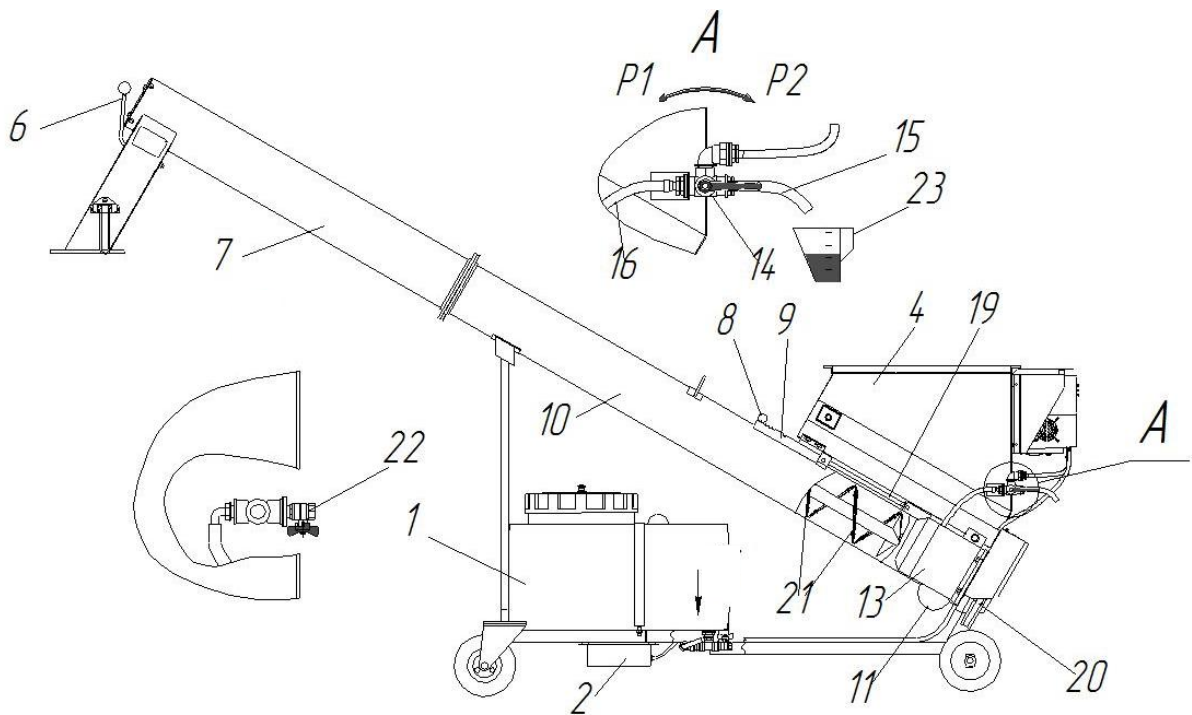
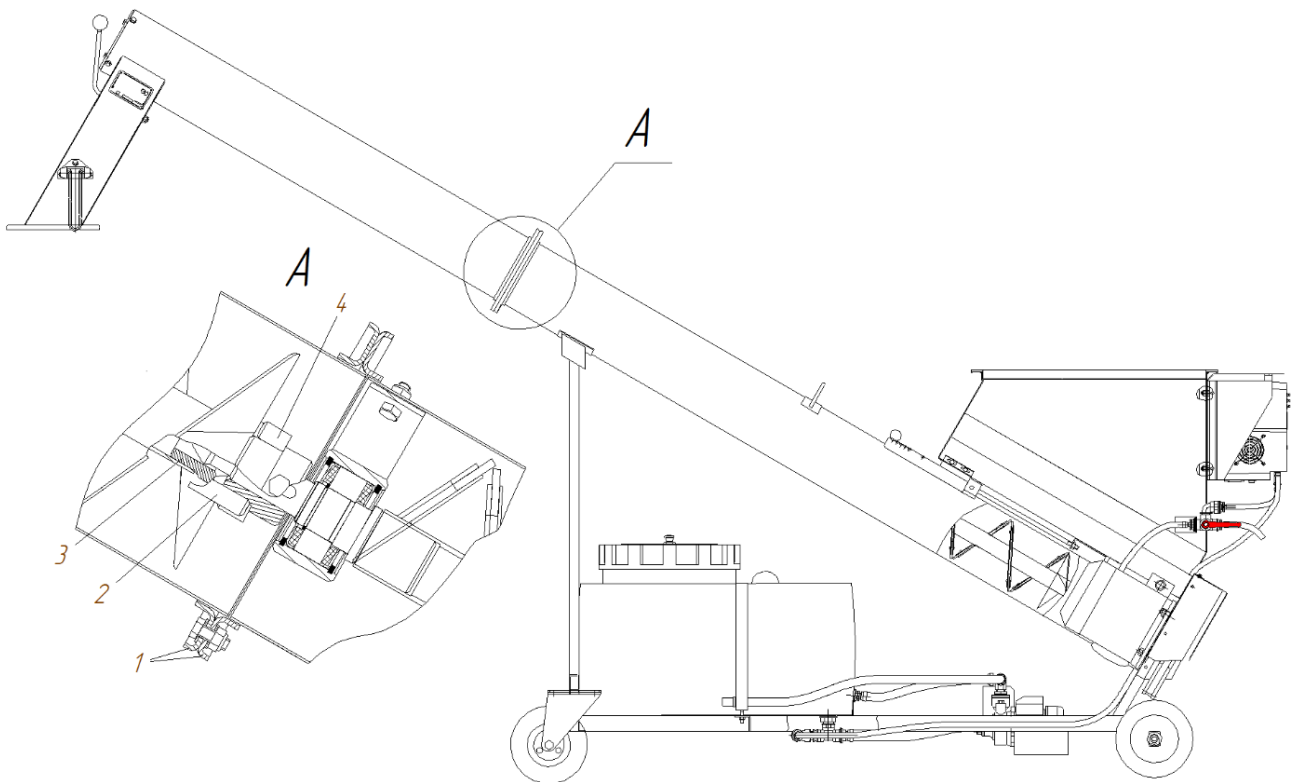
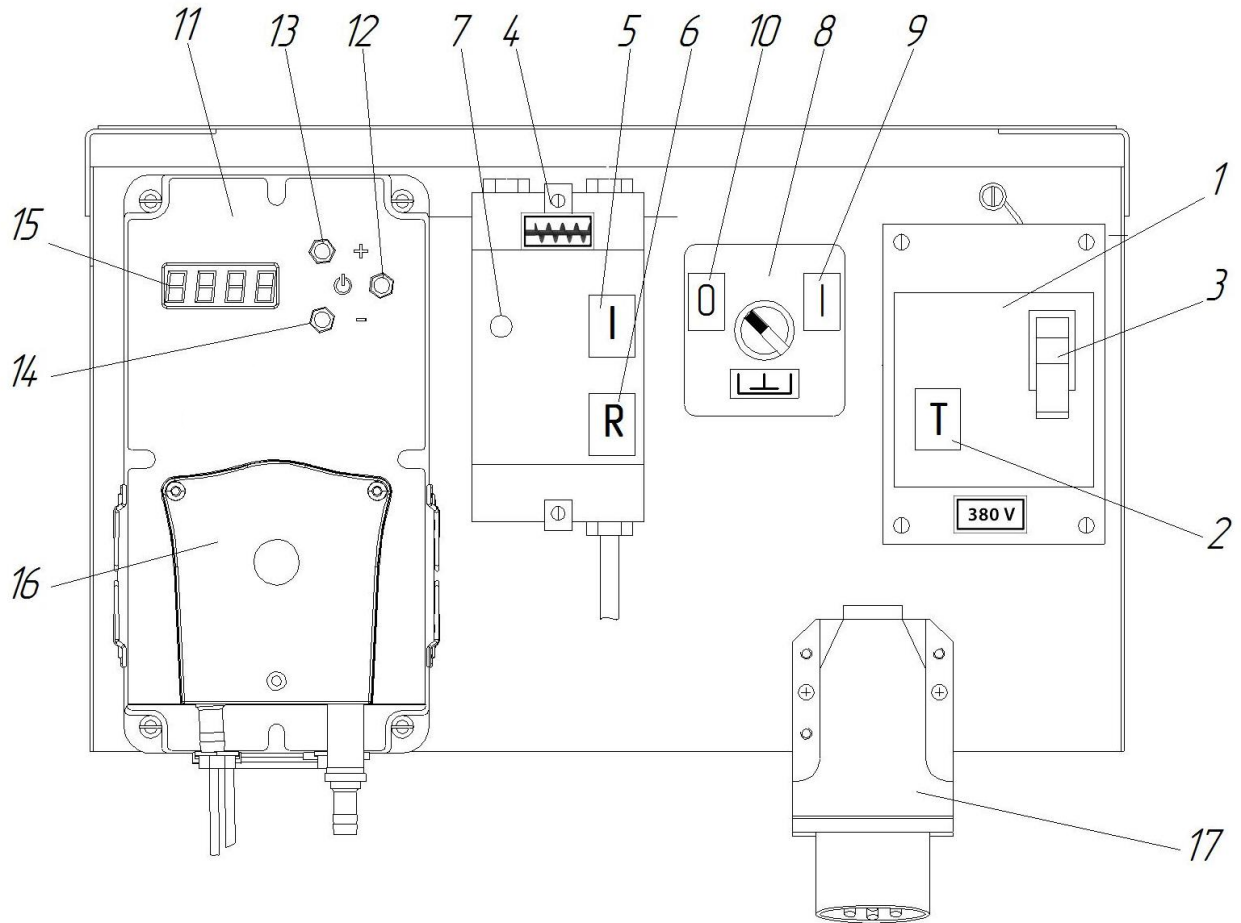

Figure 4.1
Figure 5.1
Figure 5.2
The treater (see Figures 4.1 and 4.2) is a mobile, four-wheeled unit that consists of the following components:
4.3.5 When the electrical motor (13) is activated, the drive of screws (7) and (10), the pump (3) (refer to Figures 4.1 and 4.2), and the fluid dosimeter (11) (see Figure 5.2) begin operation. The hydraulic mixer (2) mixes the operating fluid in the tank (1), and through the three-way valve (14) and hose (16), it is supplied to the screw (10) by the fluid dosimeter.
5.4 If necessary, install the screw with the seed distributor (7, see Figure 4.1) according to Figure 5.1. Secure it to the flanges (1), ensuring that the spiral bolts of the screws are centered with the conical connection (3). The claws of the plug (2) and the half-coupling (4) must engage properly.
- Connect the end of the cable with the portable socket to the fixed fork (17, see Figure 5.2) mounted on the machine.
5.6 The location of the controls for the electrical drive of the treater is illustrated in Figure 5.2.
Set the three-way cock to the position for discharging fluid from the dispenser (see figure 4.1, 'Trial' P2) and bring up the measuring container. Ensure that the hose for fluid supply to the dispenser is fully filled with fluid. If the hose is not filled, perform manual pumping of the dispenser. For this purpose, use the functions for forward and reverse pumping: